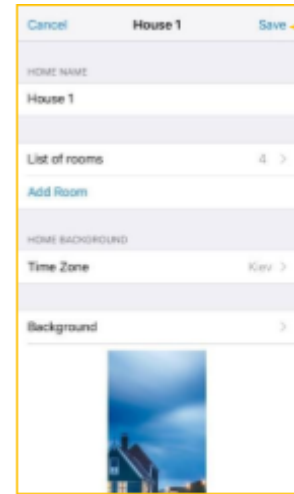

Figure 19
10.5.4. Click **Save** to save changes (Fig. 19).